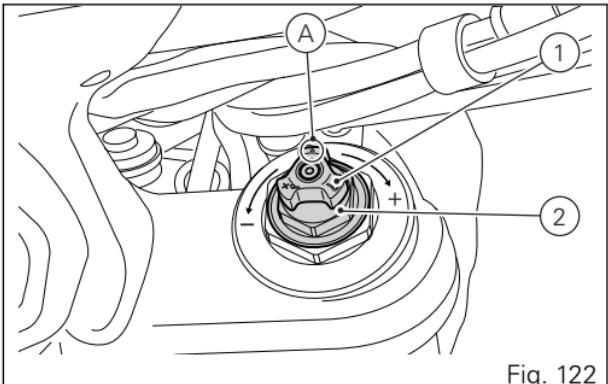

Fig. 122
- 1) for rebound damping (Fig. 122);
- 2) for inner spring preload (Fig. 122);
To change preload of the spring inside each fork leg, turn the hex. adjuster (2, Fig. 122) with a 22 mm (0.87 in) hexagon wrench, starting from the fully open (clockwise) position.
From reference (A, Fig. 122), every full turn clockwise corresponds to 1 mm (0.04 in) of preload of the